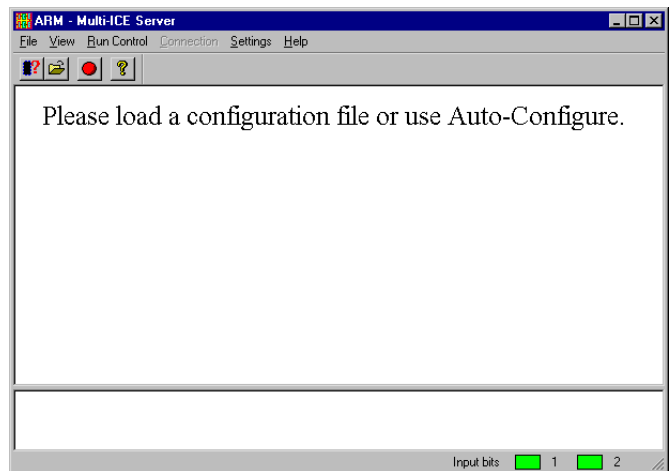

Figure 3-3 Multi-ICE startup
5. Start the Multi-ICE server. See Figure 3-3.